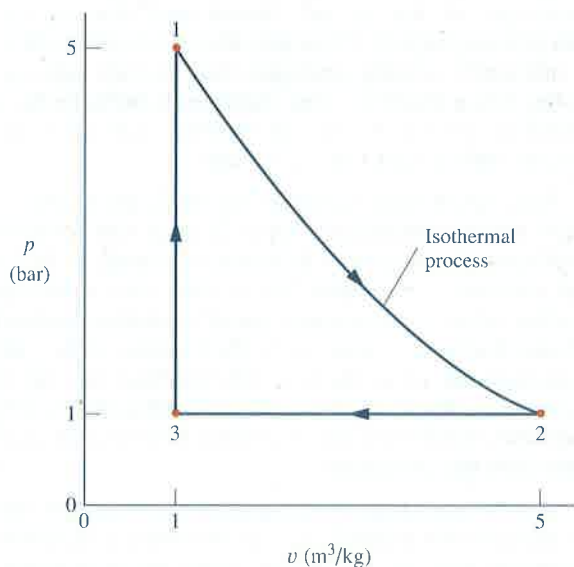

Fig. P3.142
3.142 Air contained in a piston–cylinder assembly undergoes the power cycle shown in Fig. P3.142. Assuming ideal gas behavior for the air, evaluate the thermal efficiency of the cycle.